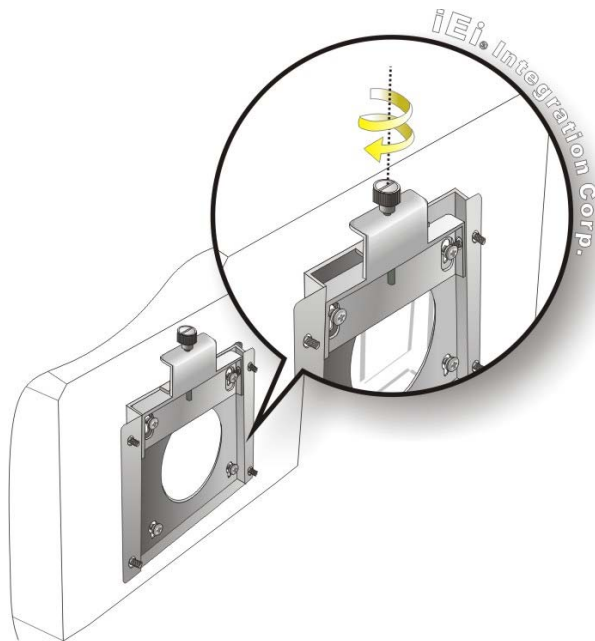

Figure 3-18: Secure the Panel PC
Step 9: Secure the panel PC by fastening the retention screw of the wall-mounting bracket (**Figure 3-18**).